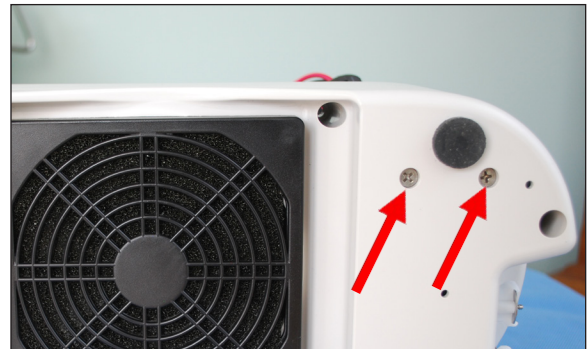

Figure 70 - Step 2 Mount bracket to base
2. Mount pump bracket to the base enclosure using two #8-32 x 1/2" flat-head screws (Figure 70).